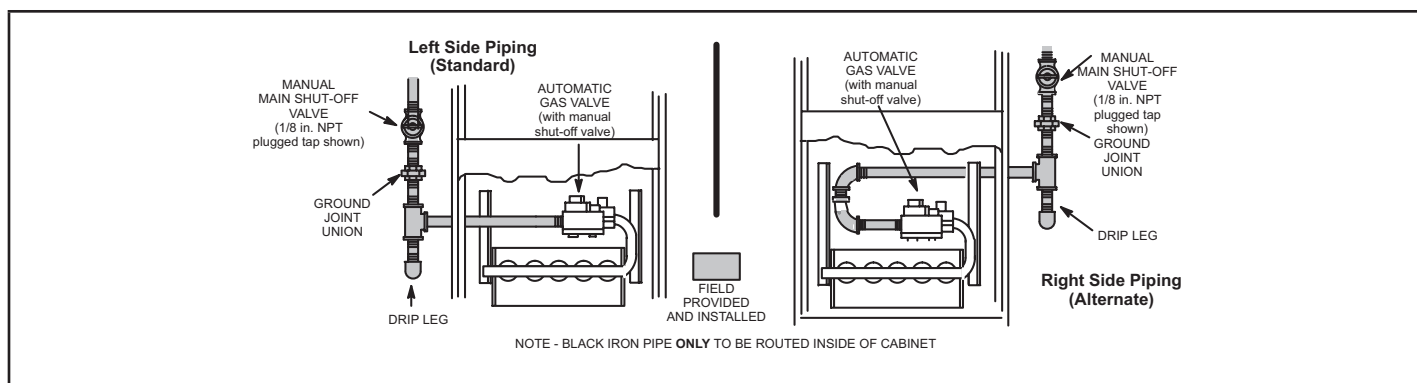

FIGURE 41
- 1 - Gas piping may be routed into the unit through either the left or right-hand side. Supply piping enters into the gas valve from the side of the valve as shown in FIGURE 41. Connect the gas supply piping into the gas valve. The maximum torque is 800 in lbs and minimum torque is 350 in lbs when attaching the gas piping to the gas valve.
- 3 - Gas piping must not run in or through air ducts, clothes chutes, chimneys or gas vents, dumb waiters or elevator shafts. Center gas line through piping hole. Gas line should not touch side of unit. See FIGURE 41.